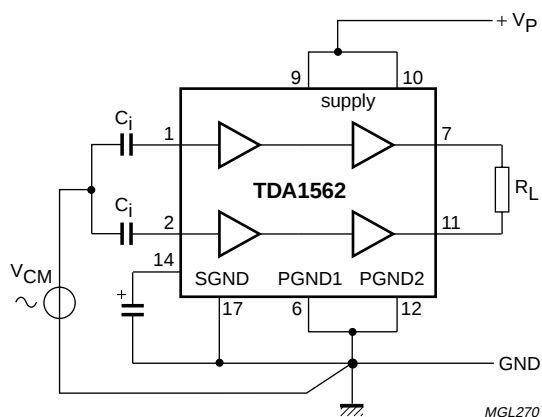

Fig.9 CMRR test setup.
4. Common mode rejection ratio is measured across R_L ; $V_{cm} = V_{cm\ max.} = 2\ V_{PP}$. CMRR [dB] = differential gain (G_v) + common mode attenuation (A_c), (Test setup according Fig. 9; mismatch of input coupling capacitors **excluded**).